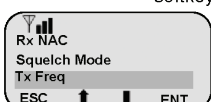

Figure 9
9. Highlight "Tx Freq" using the up/down softkeys and press "ENT". (See Figure 9)